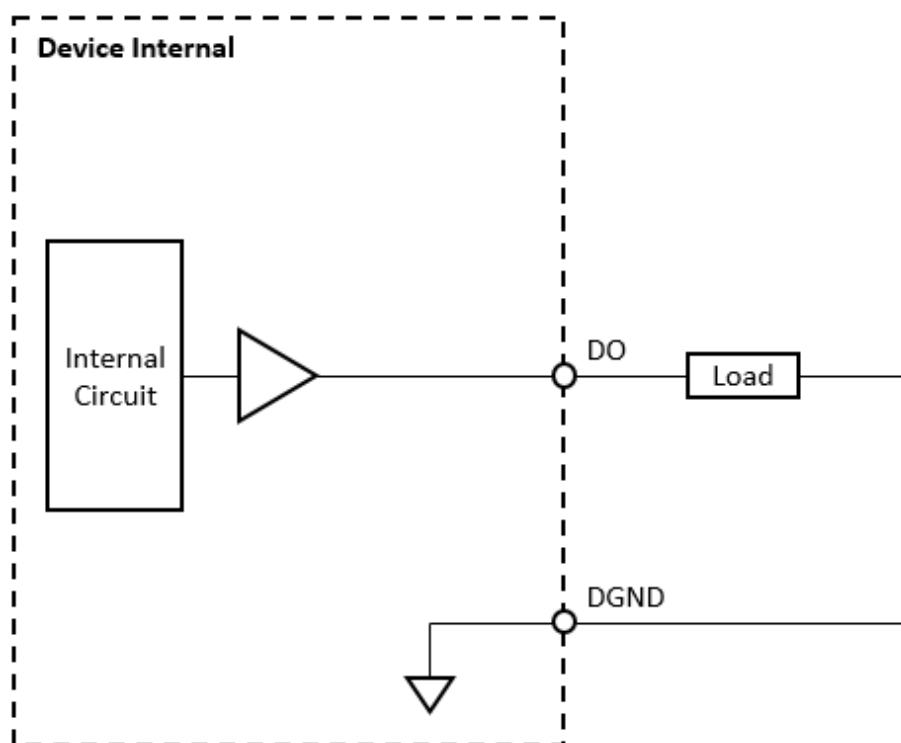

Figure 3.6 Digital output signal connection
A digital input/output (DI/O) channel can be configured by software to perform digital input measurement, which is the power-on default configuration, or digital output generation. When performing digital output generation, a voltage logic level is generated between the digital output (DO) terminal and the digital ground (DGND) terminal. This is shown in Figure 3.6.